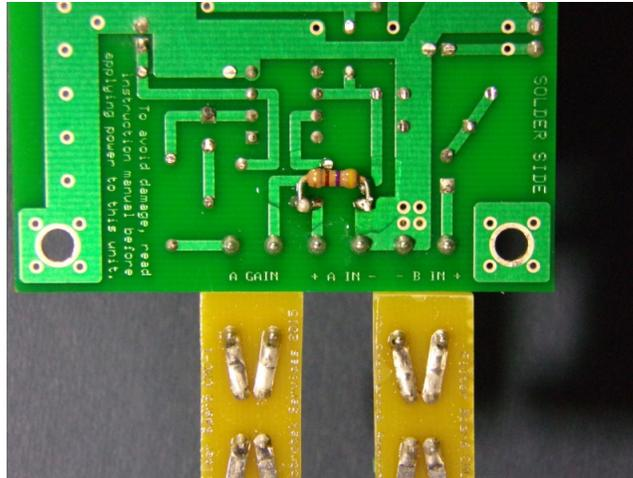

Figure 1.
12) As seen in the **Figure 1**, use a small screwdriver to gently tighten the terminal-strip screw just enough to prevent the wires from falling out of the terminal strip.
13) Repeat steps (2) through (5) with the other two filter boards. Note that these filter boards do **NOT** have a blue dot or a capacitor installed, so you may put the wires into the terminal strip at either end of these filter boards.